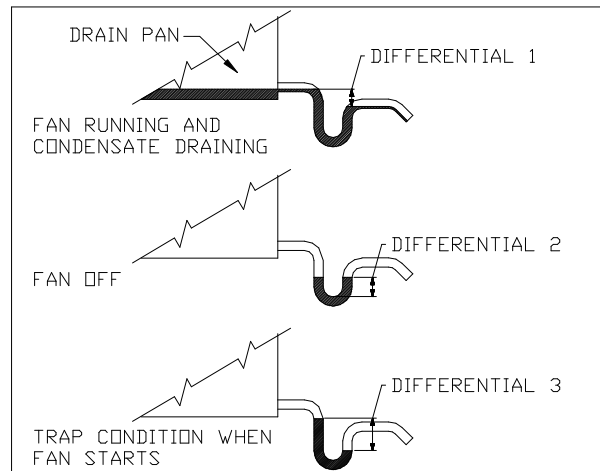

FIGURE 7 - CONDENSATE DRAIN TRAP
Step 11 - Install Unit Drain Line - Install a trapped condensate drain line at unit drain connection. The drain requires standard pipe connected to condensate pan nipple(s). Figure 7 shows proper trap design.
Referring to Figure 7, differential 1 must be equal to or larger than negative static pressure at design operating condition. Store enough water in trap to prevent losing seal. Differential 2 must be equal to or larger than one-half the maximum negative static pressure. To avoid loss of seal when the fan starts, differential 3 must be greater than the maximum negative static pressure.
Condensate Drains - Clean the drain line and unit drain pan at the start of each cooling season. Check flow by pouring water into drain. Be sure trap is filled as shown in Figure. 7 to maintain an air seal.